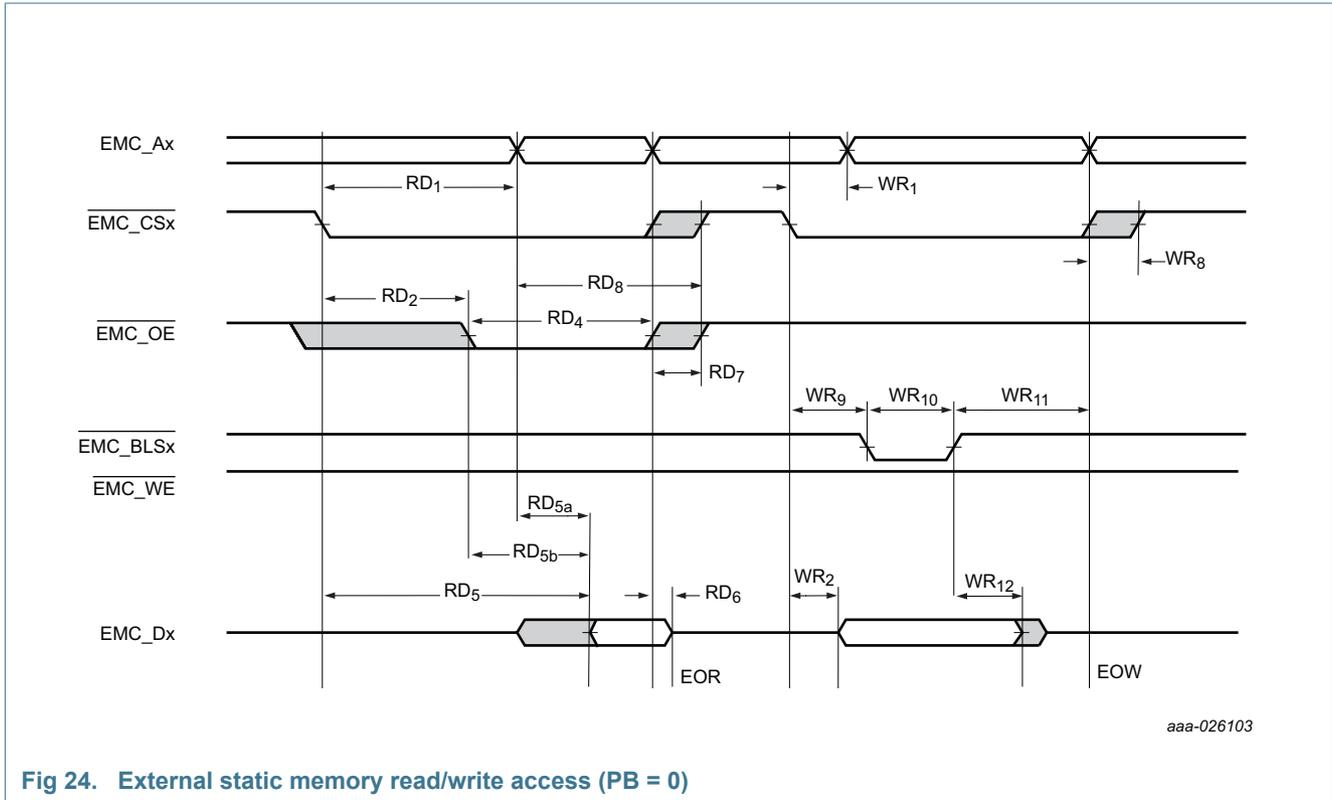

Fig 24. External static memory read/write access (PB = 0)
- [1] Parameters are shown as RD_n or WD_n in Figure 24 as indicated in the Conditions column.
[1] Parameters are shown as RD_n or WD_n in Figure 24 as indicated in the Conditions column.